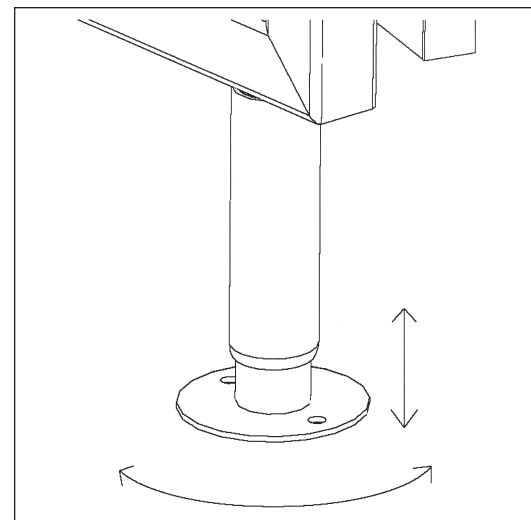

FIGURE 1
4. Place cabinet on level floor. (For cabinets with legs, adjust the legs of the cabinet to ensure proper fit of rack into cabinet. See Fig. 1)